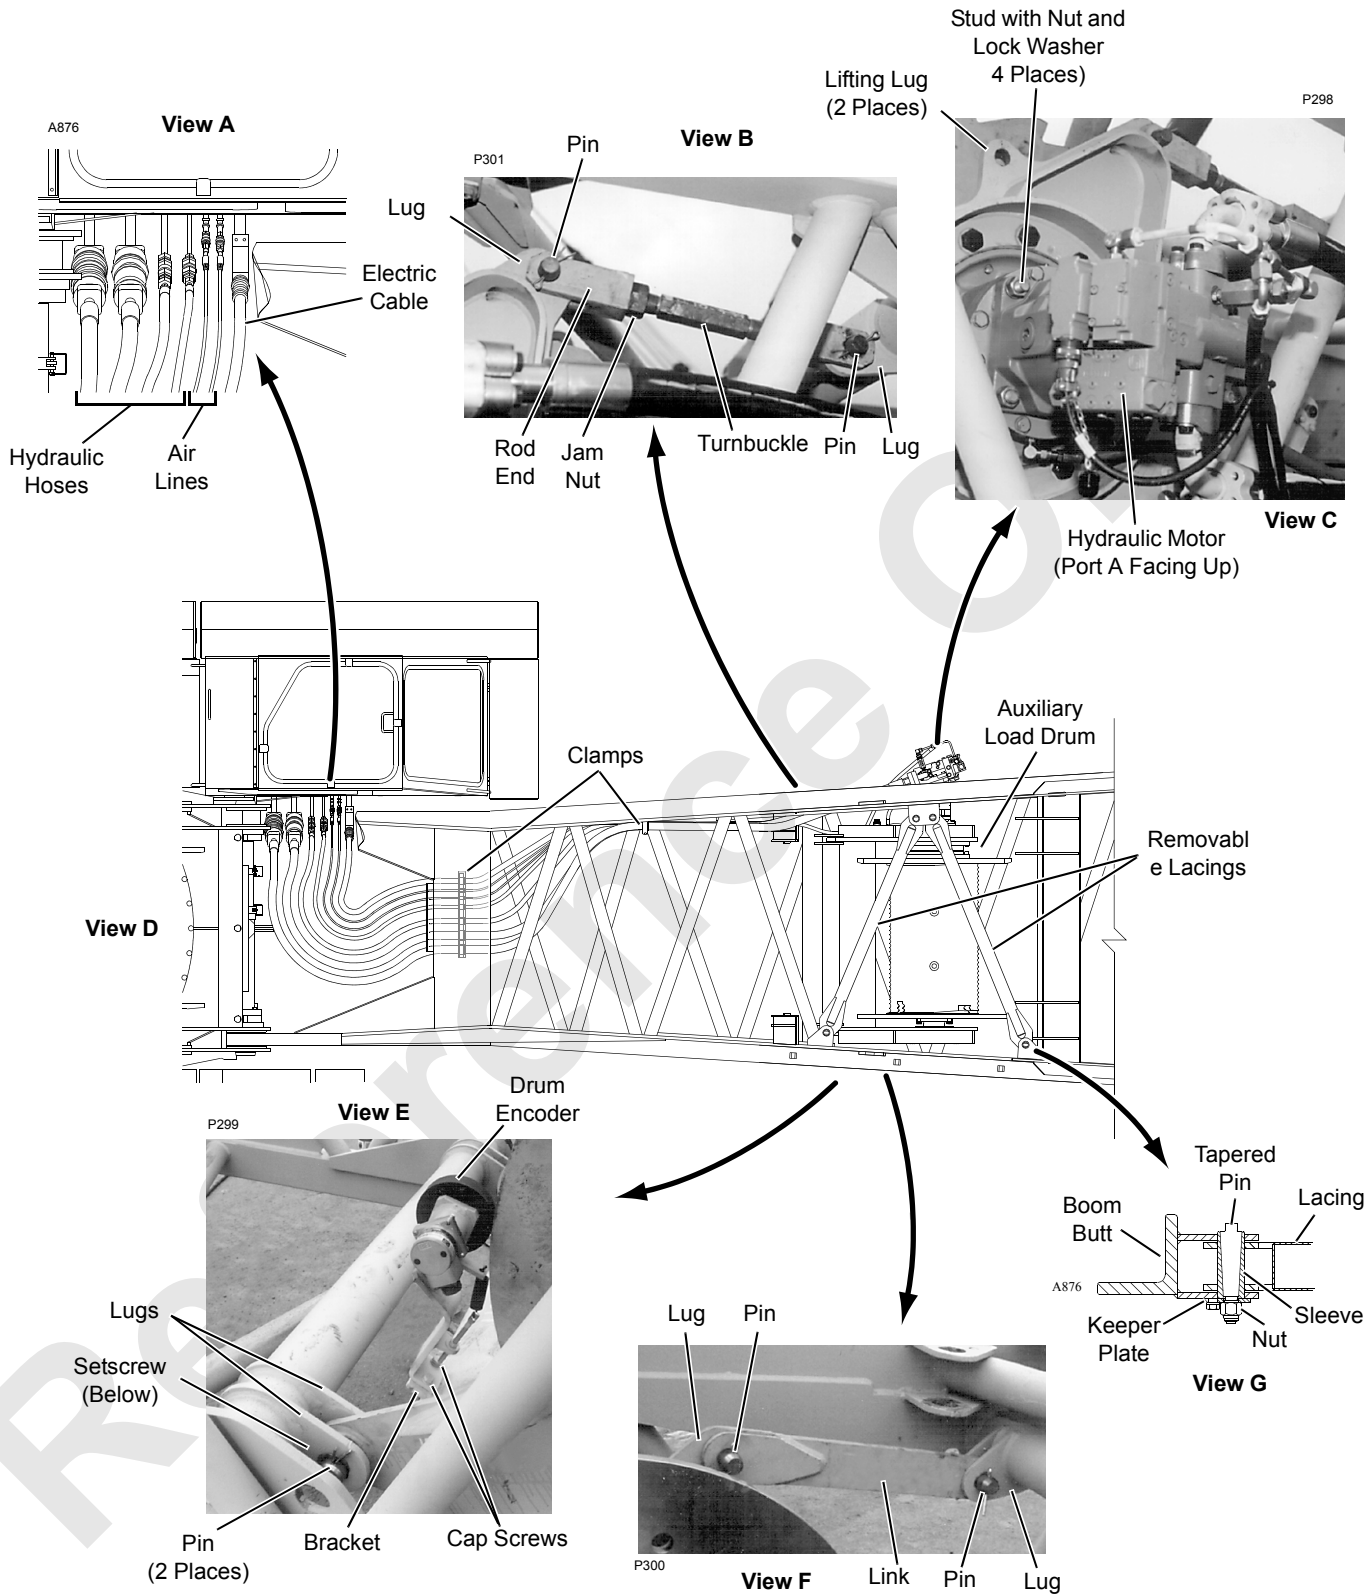

FIGURE 4-23
See Figure 4-23 for the following procedure.
1. Install clamp assemblies (Figure 4-23, View D) on boom butt (two places) for hydraulic hoses, air lines, and electric cable.
3. Connect hydraulic hoses and air lines to couplers at bottom right side of operator's cab (Figure 4-23, View A). Size and configuration of couplers make it impossible to hook up hoses or lines incorrectly.
4. Connect electric cable to plug at bottom right side of operator's cab (Figure 4-23, View A).
If butt is removed with auxiliary load drum installed, hydraulic hoses, air lines, and electric cable must be disconnected from couplers at bottom right side of operator's cab (Figure 4-23, View A).